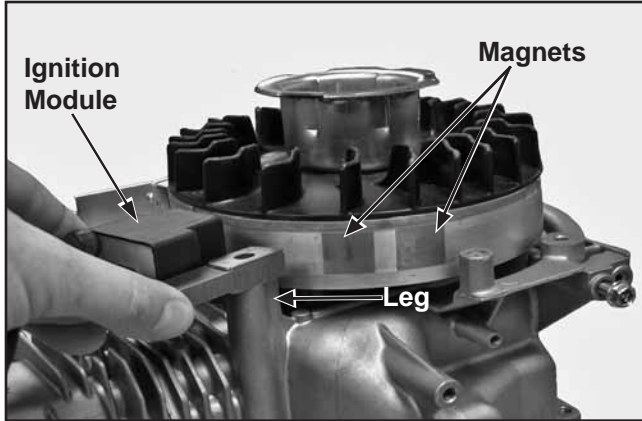

Figure 10-30. Positioning Ignition Module/Magnets
1. Rotate the flywheel so the ignition magnets are away from the ignition module legs. Position the ignition module on the legs with the kill tab down. See Figures 10-30 and 10-32.